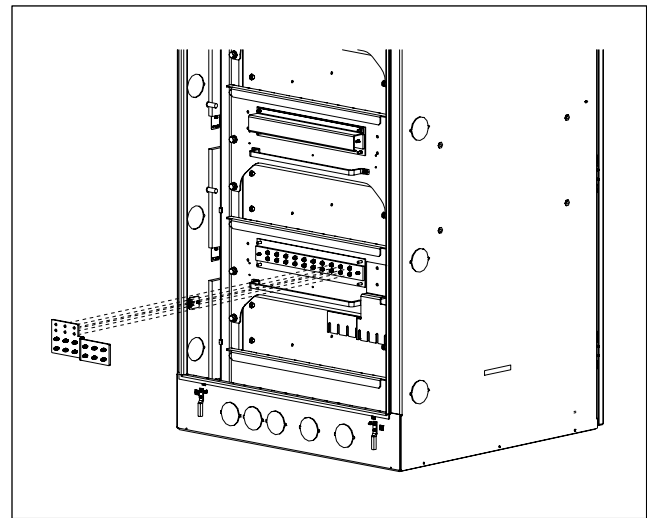

Figure 3 Bus Bar Extension
4. Mount the bus bar extension panel on the three pairs of studs at the right side of the bus bar (Figure 3). Use the nuts included on the original bus bar.